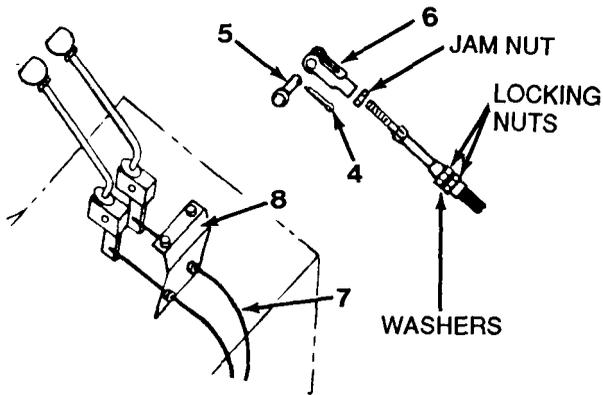
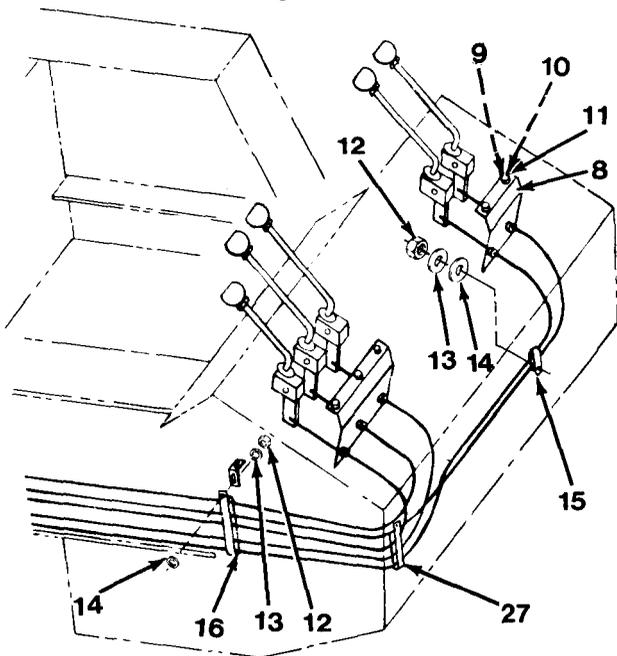

Figure 17-2
Figure 17-3
2. Remove cotter pin (4), pin (5) and yoke (6, Figure 17-2) from lever assembly.
3. Loosen and remove jam nut and remove yoke (6).
4. Loosen locking nuts and pull cable (7) from bracket (8).
5. Remove two locking nuts and washers from cable (7).
6. Remove two nuts (9), lockwashers (10) and capscrews (11) from bracket (8, Figure 17-3)
7. Remove two lock nuts (12), washers (13) and washers (14) from clamps (15) and (27).
8. Spread two clamps (15) and (27) apart and remove cable.
9. Remove two lock nuts (12), washers (13) and washers (14) from clamps (16).
10. Spread two clamps (16) apart and remove cable.